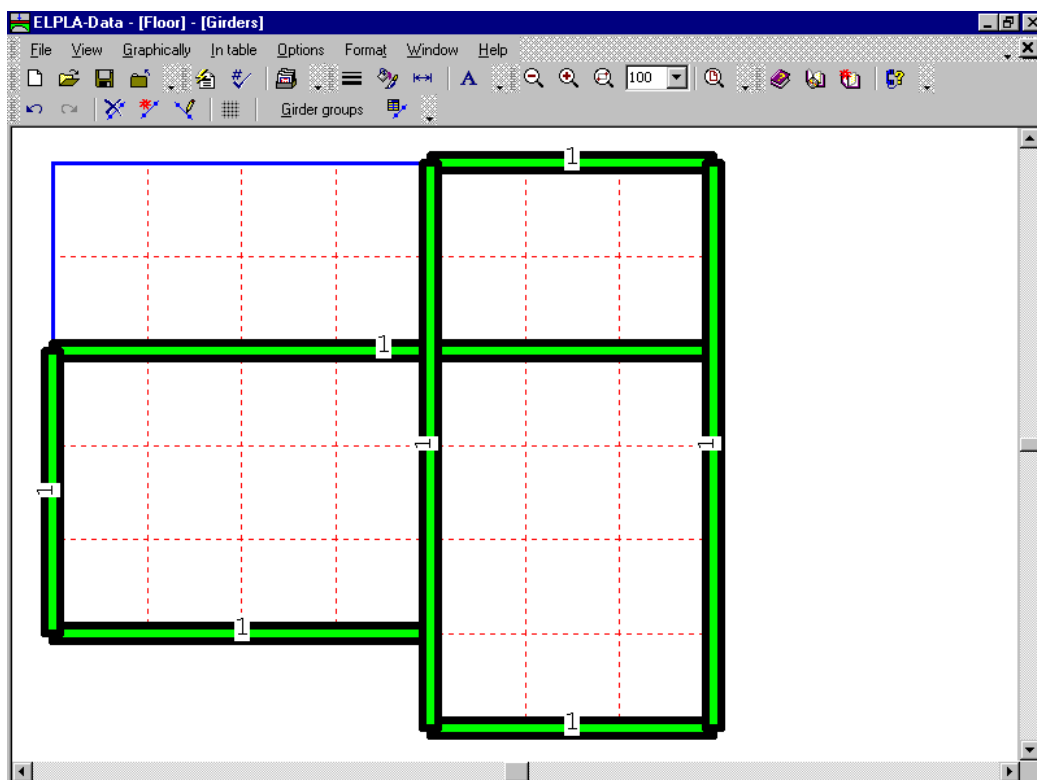

Figure 2-20 Girders on the screen
Repeat the previous steps to add the remaining girders on the net. After you have completed the definition of all girders, the screen should look like the following Figure 2-20.
- Choose "Save girders" command from "File" menu in Figure 2-20 to save the data of girders
- Choose "Close girders" command from "File" menu in Figure 2-20 to close the "Girders" embedded program and to return to the main window of *ELPLA-Data*